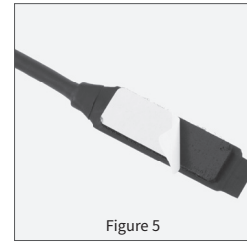

Figure 5
10. Peel off the paper backing on one side of the Velcro® adhesive strip and press it into place on the back side of the RPS (Figure 5).